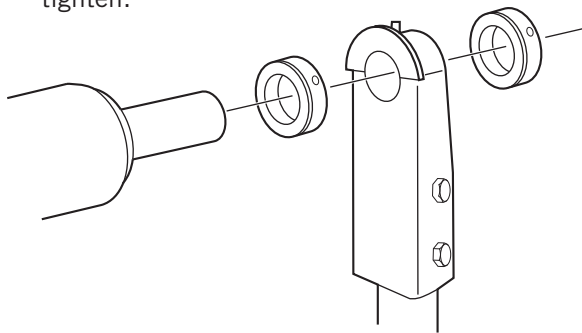

Figure 70
7) **See Figure 70.** Slide the shaft collar (5) and the rear swing-arm onto the adapter shaft at the rear of the trailer. Re-check the pivot box face for plumb. Place the shaft collar (5) 1/4" from the swing-arm bushing and tighten.